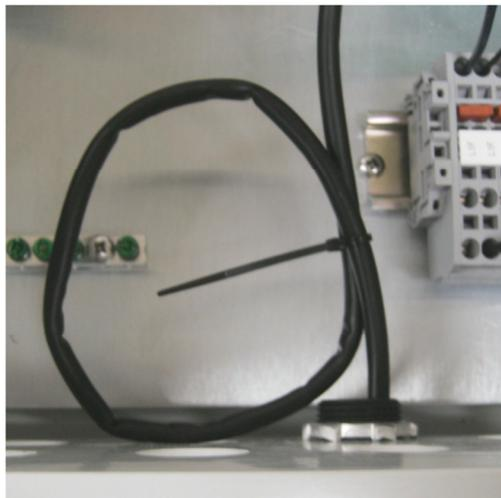

Figure 2-1 – Communication Cable
6. Plug the cable into PCB1 J7 and position the cable, providing a small amount of slack inside the cabinet to reduce stress on connector J7. Coil excess cable equally between enclosures See Figure 2-1. Do not cut and splice to remove excess cable.